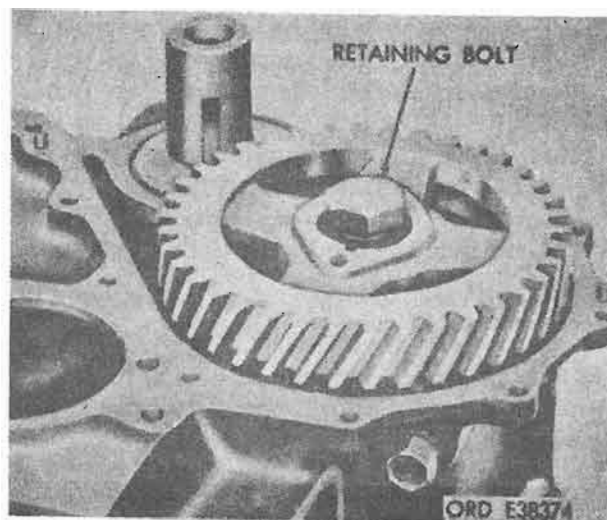

Figure 4-107. Install camshaft gear retaining bolt.
h. *Camshaft Gear Retaining Bolt*. Install camshaft gear retaining bolt in front end of camshaft to prevent damaging threads when removing with puller (fig. 4-107).